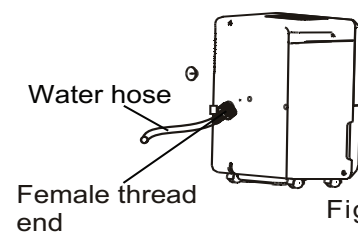

Fig.10
- Install the female threaded end of the water hose into the adaptor A (See Fig. 10) then lead the water hose to the floor drain or a suitable drainage facility.